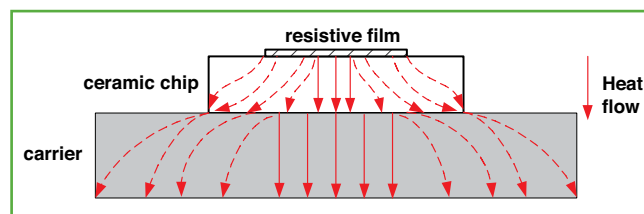
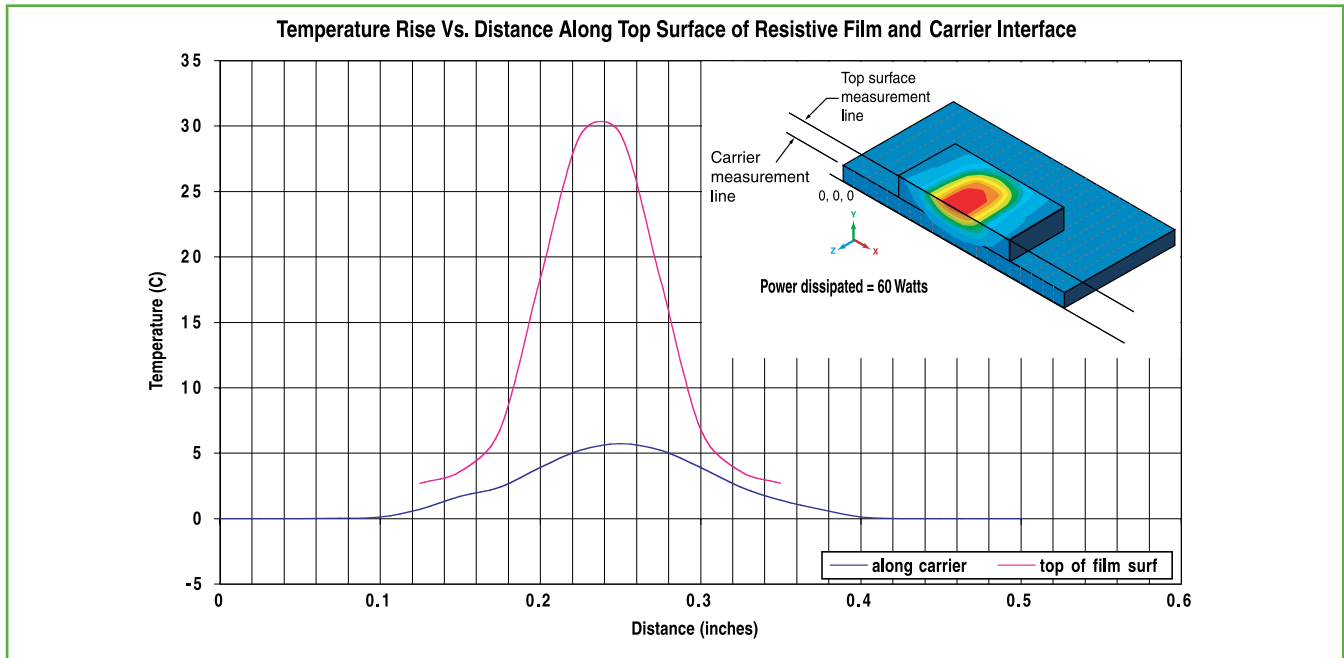
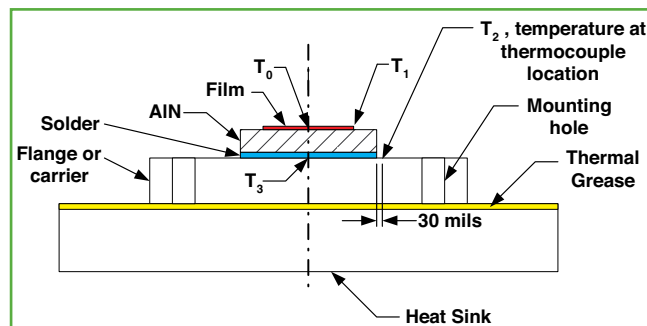

Figure 10. Heat flow around a mounted chip resistor
Figure 11: Computer simulation of isotherms around mounted chip resistor
Figure 12: Temperatures at a number of points on and around a groundplane-mounted resistive chip
Before we can do a thermal design, we must first decide on exactly what we shall mean by "power rating" for a chip device. **Figure 10** illustrates the heat flow around a mounted chip resistor. The resistive film, assumed to have constant power dissipation over its surface, behaves as an isoflux boundary, i.e., a source of uniform heat flux, rather than the isothermal boundary used in the derivation of equation (2). Were the film to completely cover the chip, the isoflux case would approach the isothermal case, but absent that condition the heat spreads out as shown.
The thermal resistance between two points is defined as the temperature difference between those points divided by the heat flow (typical units are degrees Centigrade/Watt). It is analogous to electrical resistance, with temperature corresponding to voltage and heat flux to current. **Figure 10** indicates that there is vertical as well as lateral heat flow in both the ceramic chip and the carrier it is mounted on. This implies that the system must be represented as a lattice network of thermal resistances rather than a single
thermal resistance. (The latter can characterize only the kind of one-dimensional heat flow assumed for equation (2)) **Stated alternately, the temperature will vary laterally along the film and, also, laterally along the mounting surface.** This is illustrated in Figure 11, which was made using a “Finite Element Method” (FEM) computer simulation. In actuality, a three-dimensional latticework of resistors is needed to describe a mounted resistive chip, and there is temperature variation along all three dimensions.
The above considerations bear importantly on how a chip is designed and characterized for power handling and exactly how confirming measurements are made. Figure 12 indicates temperatures at a number of points on and around a mounted chip: (a) T_0 , at the film centroid; (b) T_1 , at the film edge or corner; (c) T_3 , on the mounting surface directly under the film centroid; and (d) T_2 , on the mounting surface 30 mils away from the chip edge. We can make the following qualitative observations:
An ideal heat sink has infinite thermal conductivity and, because of this, the infinite thermal conductivity, T_2 would equal T_3 in Fig. 12. From Fig. 10 and Fig. 11, this clearly is not the case for any real mounting surface; in fact, $T_3 > T_2$.
One strategy for defining power rating might be to measure T_3 directly – or deduce it from a measurement of T_2 and a computer FEM model – and then specify performance as if an ideal heat sink were held everywhere at that temperature. By slicing a mounted resistor in half along its longitudinal axis – in Figure 12, perpendicular to the plane of the paper, down the centerline – we were able to take advantage of the lateral heat-flow symmetry to measure T_2 and T_3 for chips of several sizes and input powers. (The slice plane is an adiabatic boundary, i.e., no heat flows across it.) Results of such measurements are presented in Table 2. All chips were 40 mils thick and all measurements were made on a silver-plated high-conductivity copper mounting surface (see the table for more information).
- Next, since our carrier does not have infinite thermal conductivity, we must specify the **exact location – T_2 in Figure 12 – at which we hold the ambient temperature constant. Typically, we choose this as 30 mils from the chip edge along its lateral centerline** – an arbitrary, convenient spot at which to solder a small thermocouple.
In order of increasing accuracy (and decreasing convenience), film temperatures can be estimated by: equation (2) herein (no spreading); any one of several formulas available in the literature that include spreading; or an FEM computer program. The term “constriction resistance” is used to describe that component of thermal resistance over and above what would be produced by purely one-dimensional heat flow. Let us assume a perfectly conducting mounting surface in Figure 10, i.e., a surface along which there can be no lateral temperature variation. Then to calculate the total thermal resistance from the film to the mounting surface, one would compute the one-dimensional resistance of the chip with the film occupying its entire surface and then add the constriction resistance to account for the lateral constriction of the heat-flow. (Note, from the top down the heat spreads and so the term “spreading resistance” is frequently used, but from the bottom up the heat flow constricts.) There are several expressions available in the literature for the constriction resistance of heat sources mounted on rectangular channels (“flux tubes”) with adiabatic walls, i.e., heat-producing films on chips that have no appreciable heat conduction perpendicular to their sidewalls. One formula that yields constriction resistance based on an average film temperature is⁵.